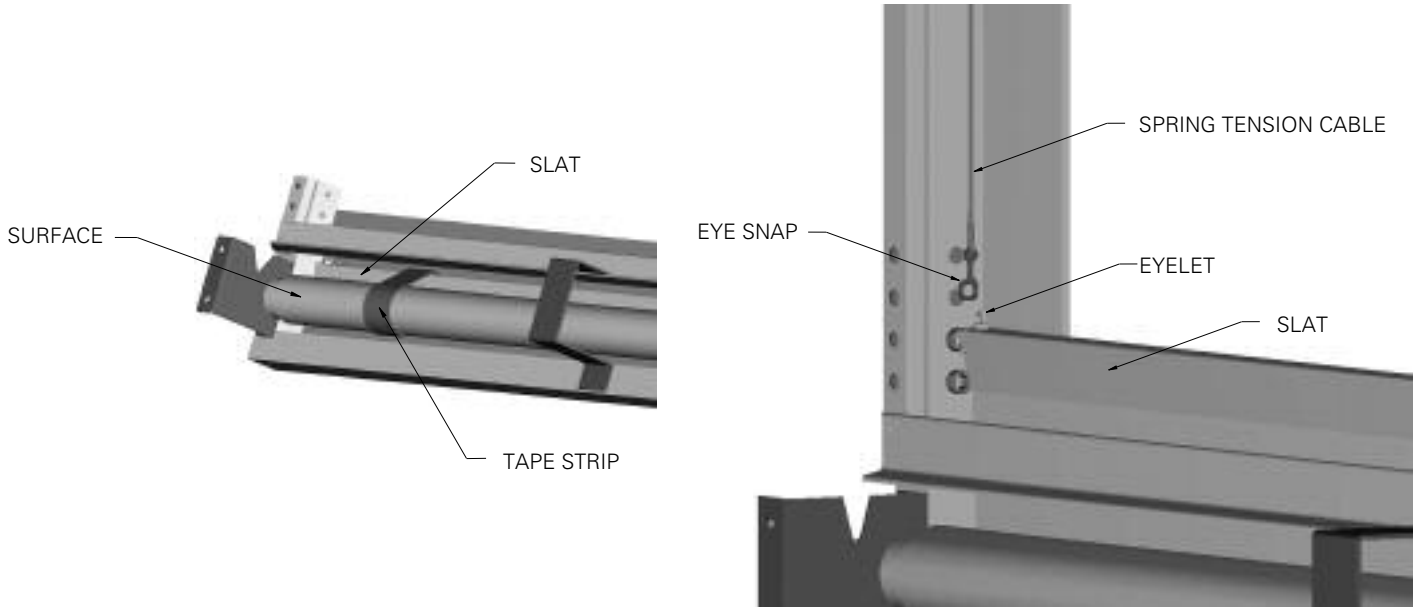

FIGURE 5
1. Carefully remove all tape strips securing surfaces around rollers. Slats should move freely. See Figure 5.
3. Connect the eye snap to the eyelet on the bottom masking panel bar. See Figure 5. You will need to pull the cable slightly.